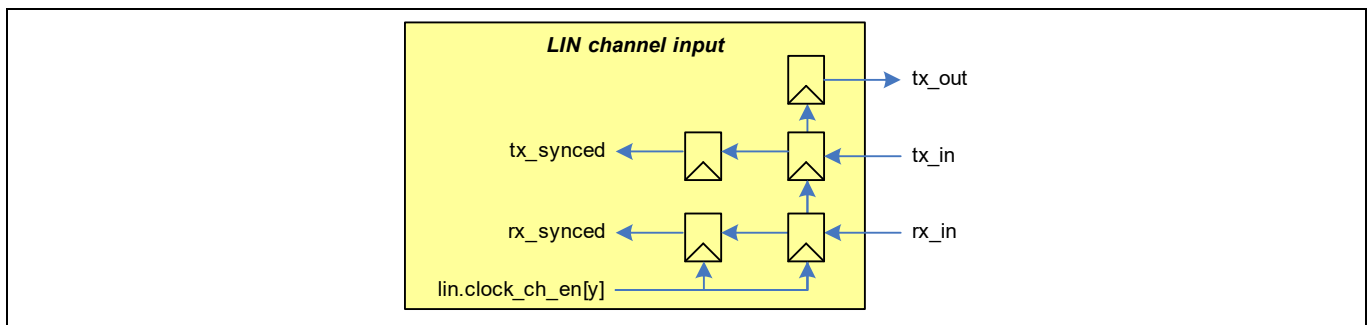
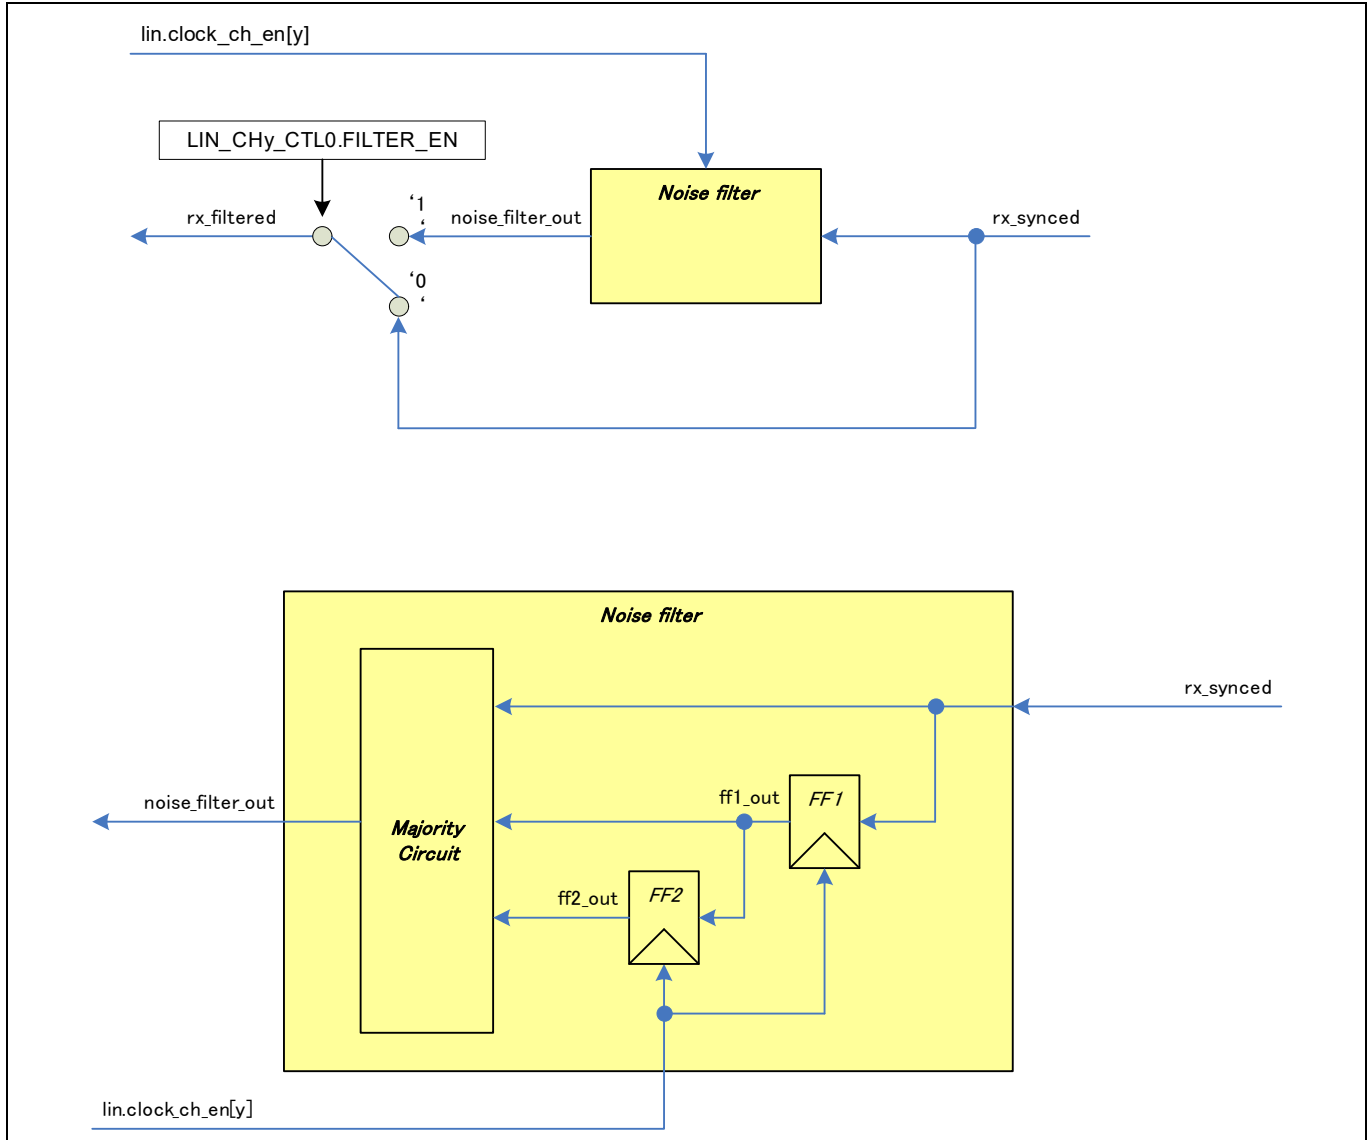

Figure 20-47. LIN signal line synchronization block diagram
Figure 20-48. LIN noise filter block diagram
The LIN receiver operates on the synchronized rx_synced input signal, as shown in Figure 20-47.
- When LIN0_CHy_CTL0.FILTER_EN is '1', the receiver operates on the majority of the last three rx_synced signal values based on the internal module clock LIN0_lin.clock_ch_en[y]. This filter suppresses noise on the rx_in input. Note that the filter adds a delay of one cycle to the receiver. Figure 20-47 shows the block diagram of the noise filter and Figure 20-48 shows the noise filtering timing behavior including the sample point position.